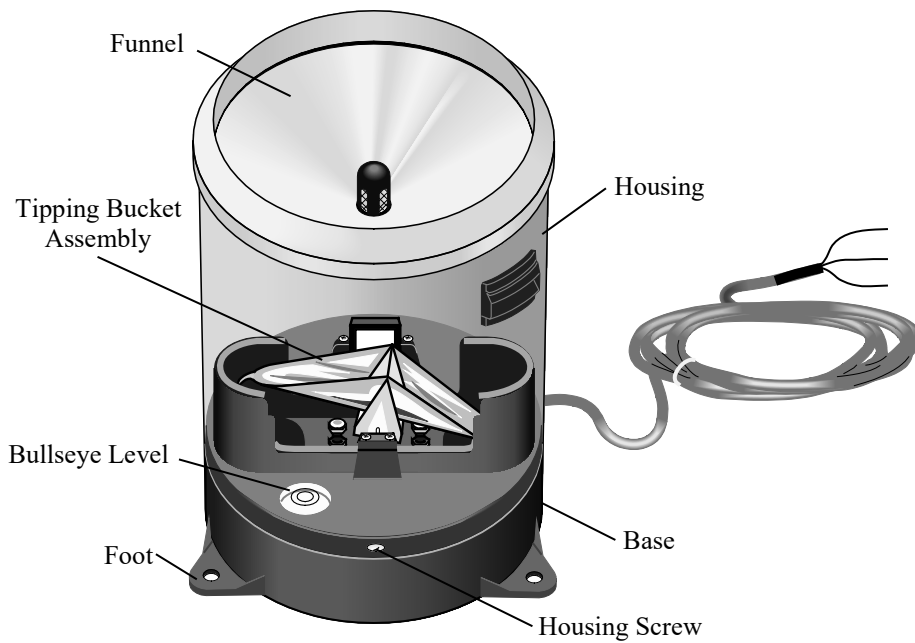
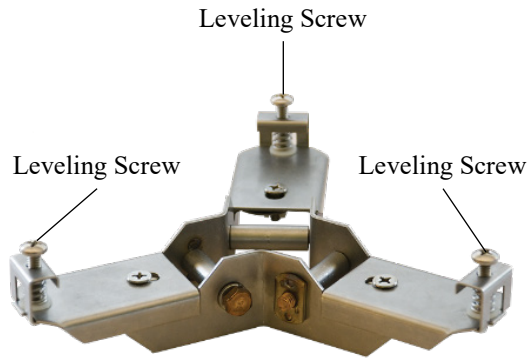

FIGURE 7-5. Transparent View of the TB4 (CS700 looks similar)
FIGURE 7-6. CM240 Mounting Bracket
1. Remove the housing assembly from the base by loosening the three housing screws and lifting the housing upward (FIGURE 7-5).
- Remove the leveling screws from the CM240 (FIGURE 7-6).
- Place the tipping bucket on the CM240 and line up the holes in the tipping bucket feet with the holes for the CM240 leveling screws (FIGURE 7-5 and FIGURE 7-6).
- Adjust the three leveling screws on the CM240 bracket to level the gage (FIGURE 7-6). A bullseye level is mounted on the rain gage base to facilitate leveling (FIGURE 7-5).